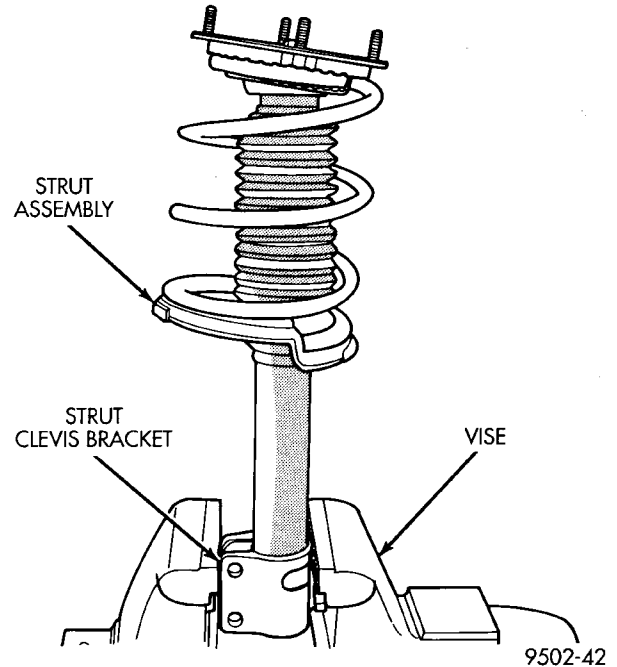

Fig. 25 Strut Assembly Mounted In Vise
(1) Remove strut assembly requiring service from the vehicle. Refer to Strut Assembly Removal in Servicing Rear Struts, in this section of the service manual.
(2) Position strut assembly in a vise (Fig. 25). Using paint or equivalent, mark the strut unit, lower spring isolator, spring and upper strut mount for indexing of the parts at assembly.